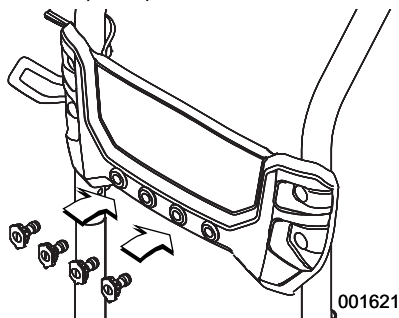

Figure 2-5. Insert Nozzles
5. See Figure 2-5. Insert and snap nozzles into spaces provided in handle.